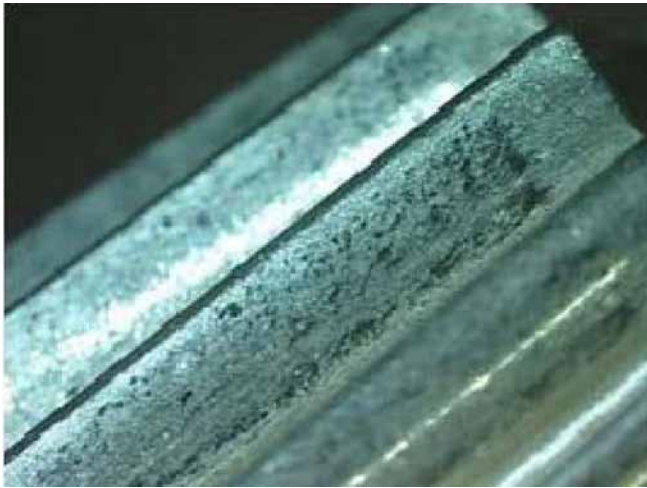

Figure 17—ISF Gear A, Mesh 1: post-150-hour test.
**150-hour ISF test results.** A second set of gears was processed using ISF. The ISF gears were incorporated into the same gearbox and tested to the same parameters as the baseline set. Table 8 shows the surface roughness of the ISF gears. Figures 17–20 are low-magnification, white-light photos of the ISF gears post test. The post-test surface distress was minimal and the gear deemed acceptable for further testing.